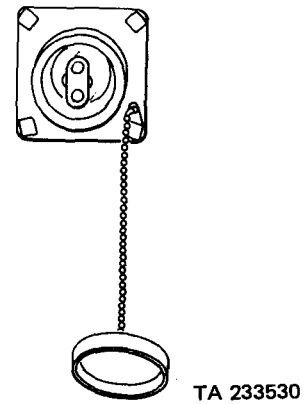

Figure 2-3. 110-volt external receptacle (M129 series)
- a. Used for connecting an external 110-volt ac electrical supply to semitrailer (figure 2-3).